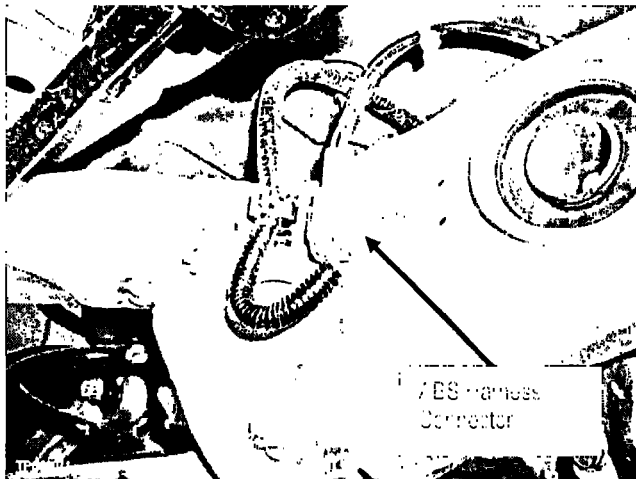
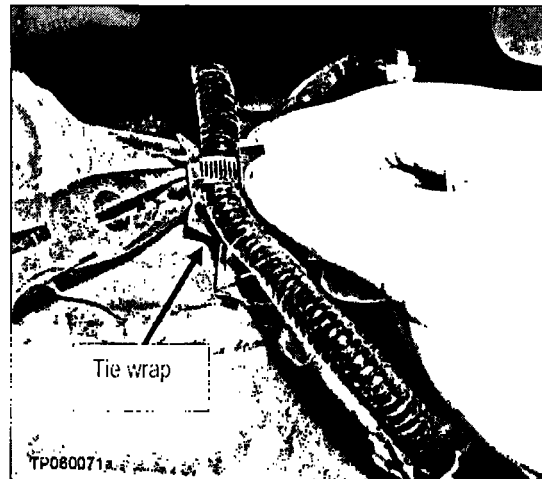

Figure 20a
Figure 20b
24. Disconnect the ABS harness connector (see Figure 20a). Then remove the tie wrap from the suspension member using a pair of needle-nose pliers (see Figure 20b).